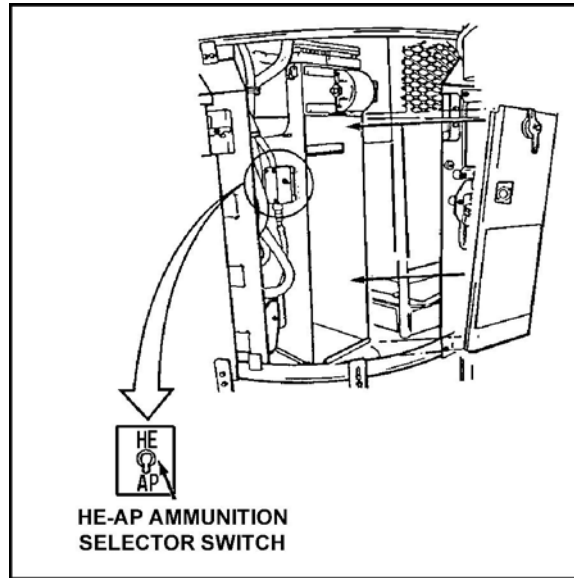

Figure 6. HE-AP ammunition selector switch.
8. Move the HE-AP ammunition selector switch to the correct position for the ammunition loaded (Figure 6).